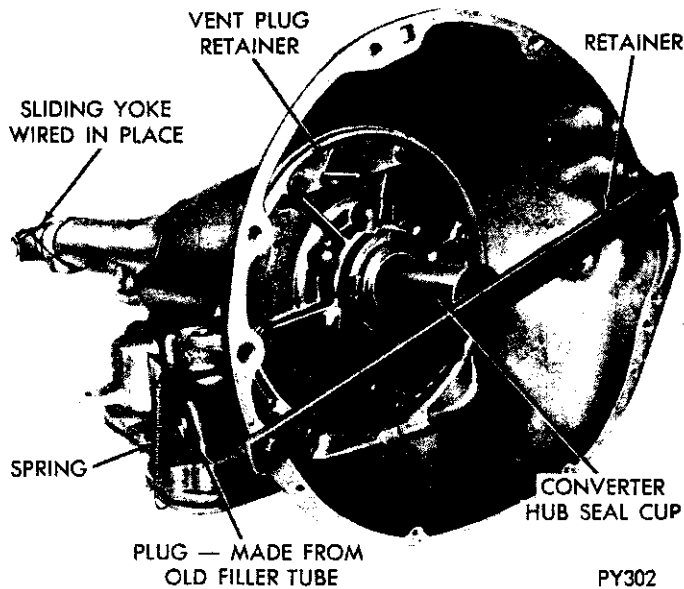

Fig. 4—Transmission Prepared for Test
- (1) Install filler tube bore plug, propeller shaft yoke (tie in with cord or wire), flared tube fitting cap (on front cooler line fittings), and pipe nipple (in case at rear cooler line fitting) (Fig. 4 and 5).
- (2) Remove necessary front pump housing bolts,
and vent shield (in A-727 transmission). Install vent plug (rubber stopper), and vent plug retainer (Fig. 4) preferably using longer bolts than those removed.
(3) With rotary motion, install converter hub seal cup (Fig. 4), over input shaft, and through the converter hub seal until the cup bottoms against the pump rotor lugs. Secure with cup retainer strap (Fig. 4), using converter housing to engine block retaining bolts.